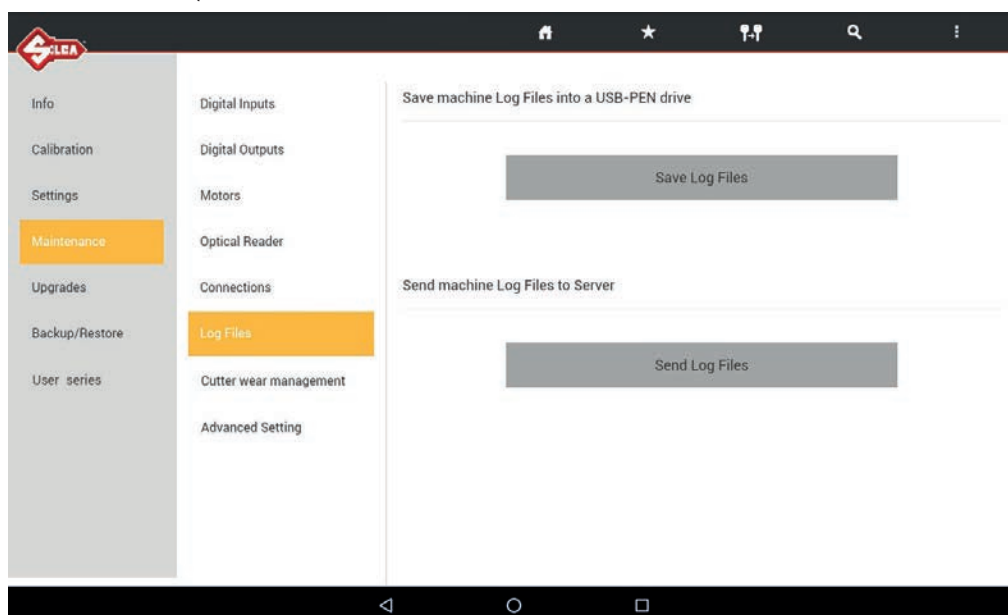

Fig. 17 - Futura PRO
- on a USB key connected to the machine's USB port (Fig. 17). **Note: FUTURA has one USB port only.**